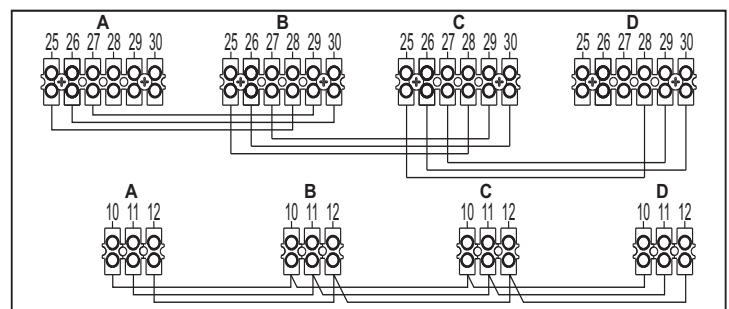

fig. 36 - Connection in cascade
1. Connect the modules as shown in fig. 36 (example with 4 modules)
If this does not occur, disconnect the power and check the wiring in fig. 36.